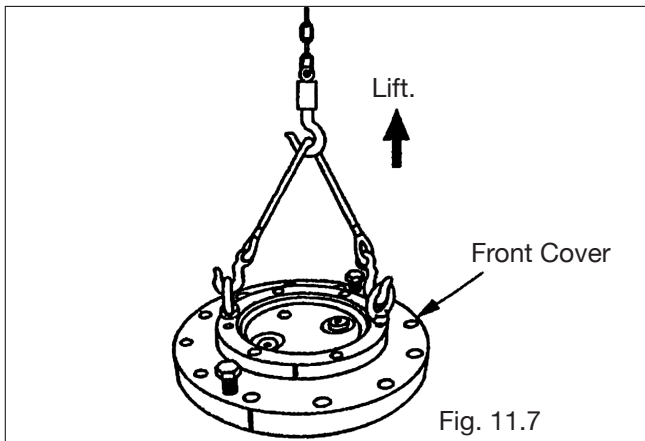

Fig. 11.7
- ⑦ Tighten two jacking bolts slowly and equally to raise the front cover off its seat. When the jacking bolts have been tightened to their full depth, carefully lift the front cover, using a chain pulley block (Fig. 11.7).